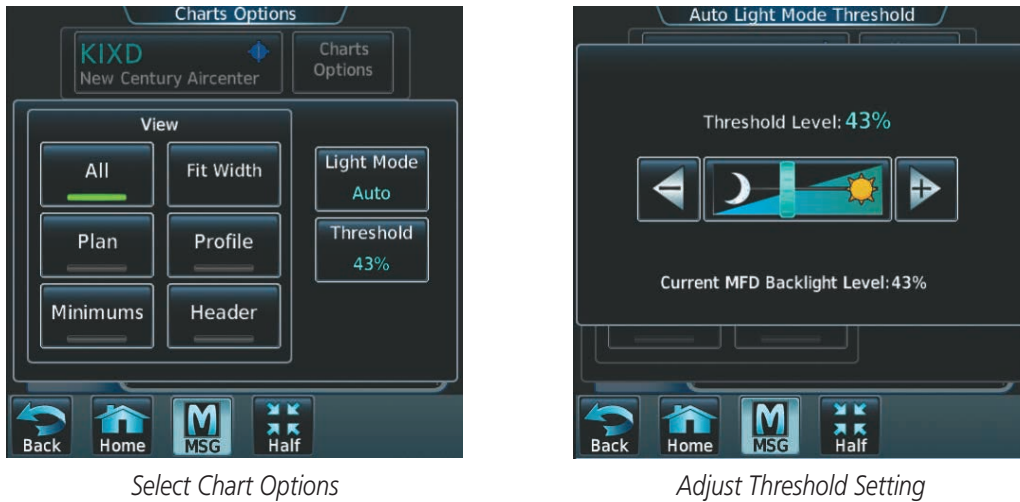

Figure 8-14 Setting Day/Night Switching Threshold
- 4) Touch the **Threshold** button (Figure 8-14). The Auto Light Mode Threshold window is displayed.